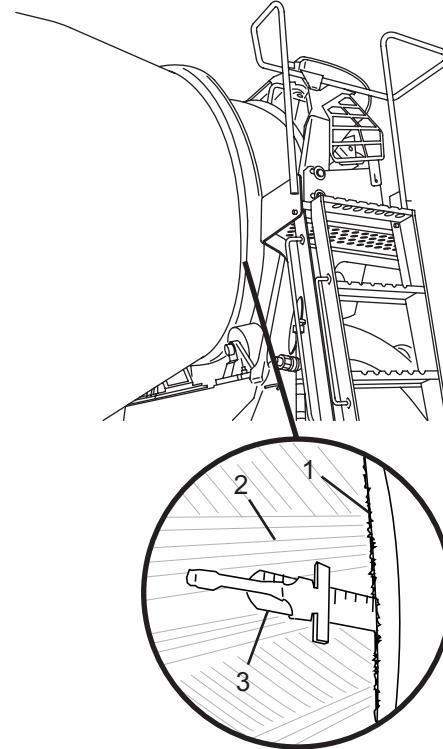

Figure 13
10. Inspect the roller track for separation between the urethane material (Figure 13, Item 1) and the fiberglass drum surface (Figure 13, Item 2).
If the gap is enough to insert a steel rule (Figure 13, Item 3) between the urethane material and the fiberglass drum surface, the condition should be reported to London Machinery Inc. at 800-265-1098.